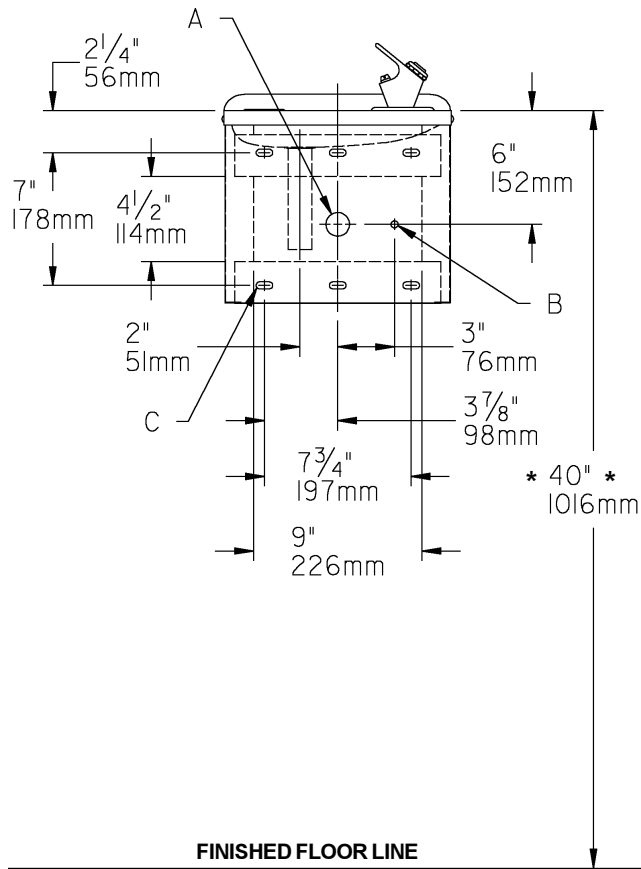

FIG. 1
- 1. Wall** should already be framed for the fountain using the positioning dimensions shown in Figure 1. Shown dimensions pertain to installation location (framing must support up to 150 lbs. weight).
- 2. Install** rough-in plumbing as shown in Figure 1. Connecting lines to be unplated copper. Run supply water inlet line and connect to a service stop (not provided). Turn on supply water and flush thoroughly. Close water supply.